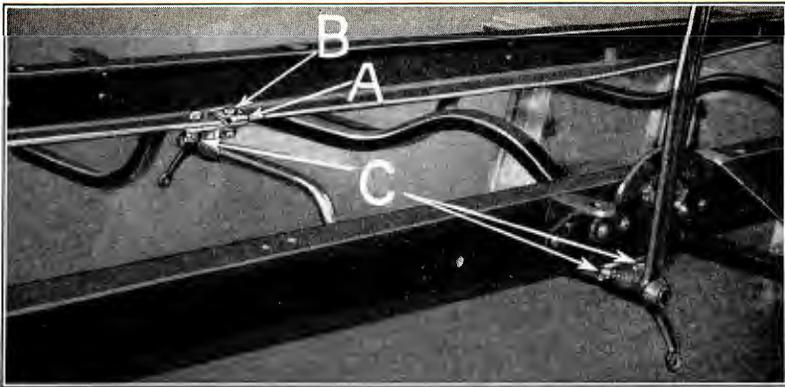

Fig. 65
- (a) Insert the four control shaft bracket bolts and nuts which hold shaft to frame, positioning feed pipe clamp (See "A" Fig. 65) under head of bolt "B".